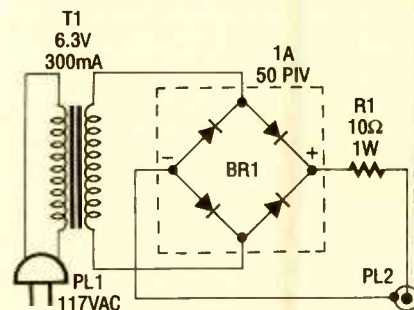

Fig. 3. Although rather simple in design, this circuit can be used to charge the gelled-electrolyte, lead-acid battery used to convert the flash unit.
**Battery Charger.** A charger for the battery can be made from a 6.3-volt filament transformer, a bridge rectifier (or 4 individual rectifier diodes with the proper rating), and a current-limiting resistor. A schematic diagram of the charging circuit used by the author is shown in Fig. 3.